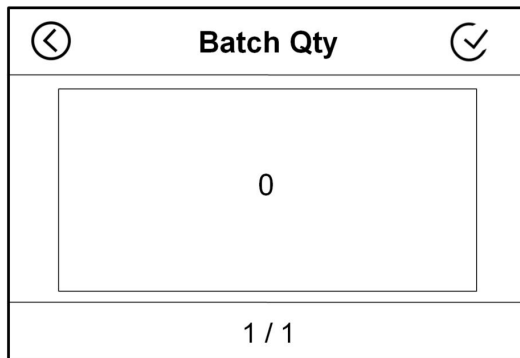

Figure 46
1) Under main interface, press batch key “” for 3S and the machine will enter into customized batch number setting interface as below Figure 46: